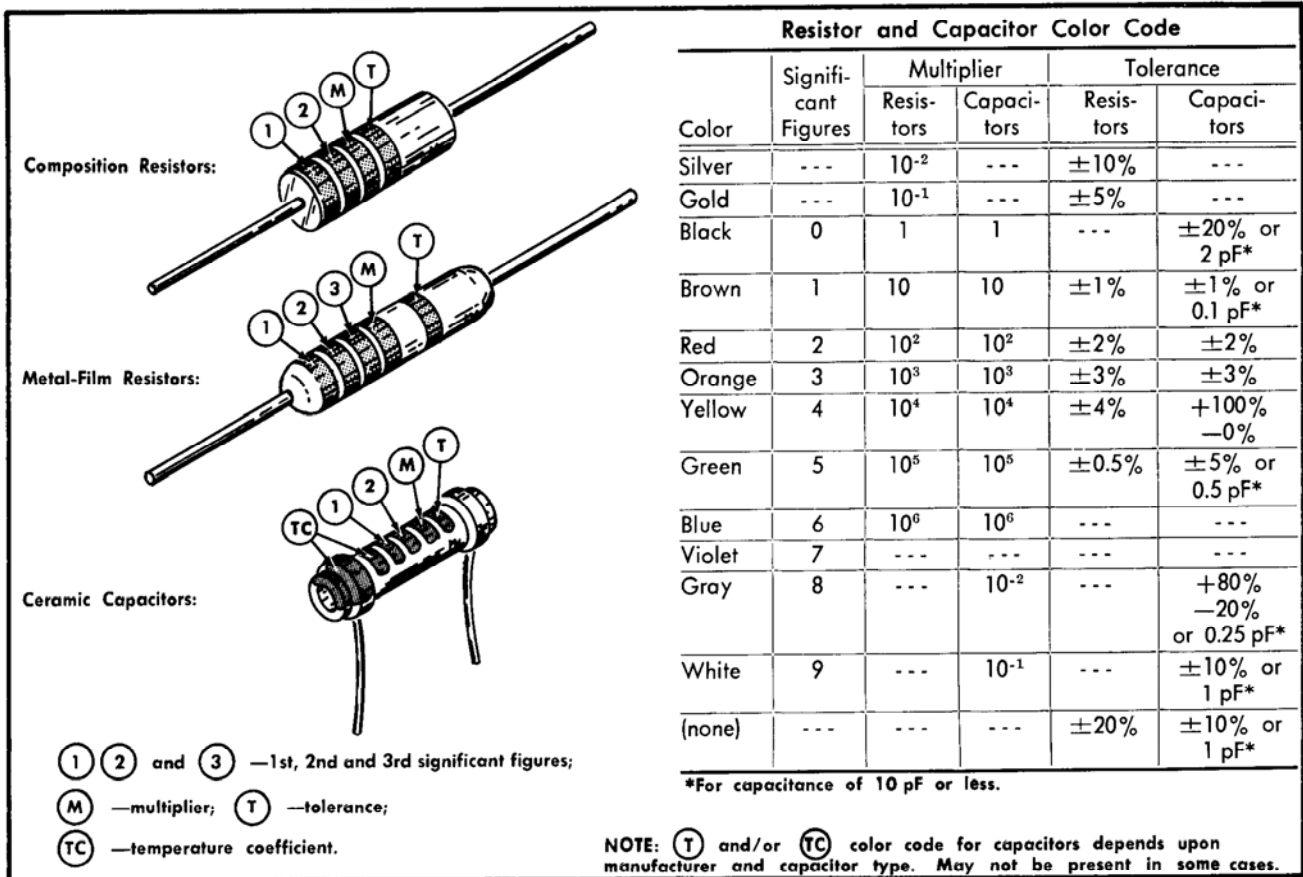

Fig. 4-2. Standard EIA color coding for resistors and capacitors.
**Resistor Color Code.** In addition to the brown composition resistors, some metal-film resistors and some wire-wound resistors are used in the Type R564B. The resistance values of wire-wound resistors are printed on the body of the component. The resistance values of composition resistors and metal-film resistors are color-coded on the components with EIA color code (some metal-film resistors may have the value printed on the body). The color code is read starting with the stripe nearest the end of the resistor. Composition resistors have four stripes which consist of two significant figures, a multiplier and a tolerance value (see Fig. 4-2). Metal-film resistors have five stripes consisting of three significant figures, a multiplier and a tolerance value.
**Capacitor Marking.** The capacitance values of common disc capacitors and small electrolytics are marked in microfarads on the side of the component body. The white ceramic capacitors used in the Type R564B are color coded in picofarads using a modified EIA color code (see Fig. 4-2).